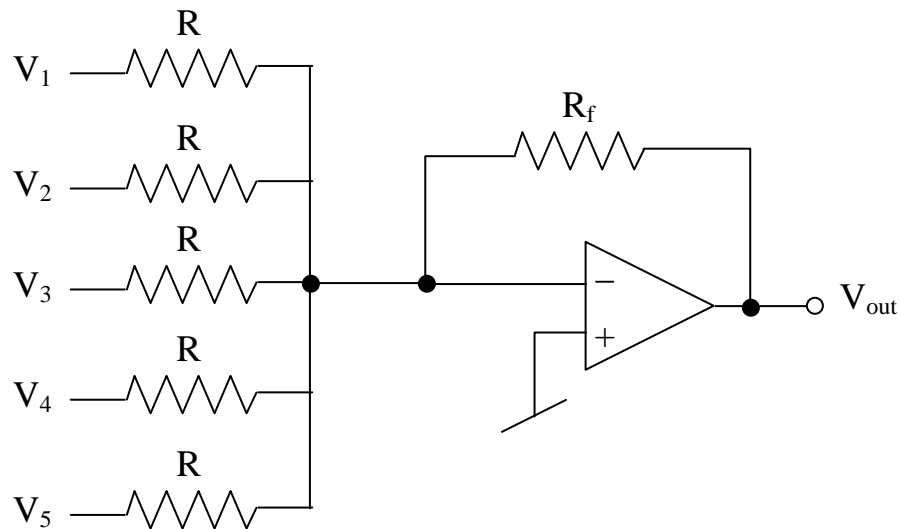

Figure 8b: Determine the output voltage in terms of the input voltages.
- Do the same analysis for figure 8b.